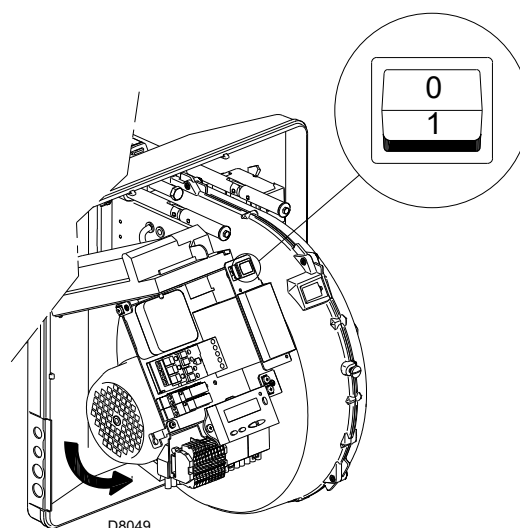

Fig. 29
Close the thermostats/pressure switches and turn the switch of Fig. 29 at page 30 to position “1”.
As soon as the burner starts up, go in front of the cooling fan of the fan motor and check it is rotating anticlockwise. See Fig. 29.
- place the switch of Fig. 29 in position “0” and wait for the control box to carry out the switch-off phase;
The burner is in the heat request waiting mode, or the selector “0-1” (Fig. 29 at page 30) is in the “0” position.